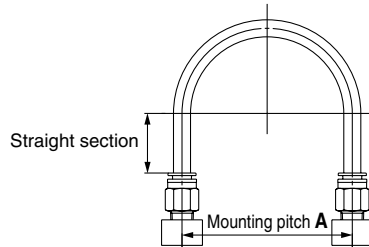
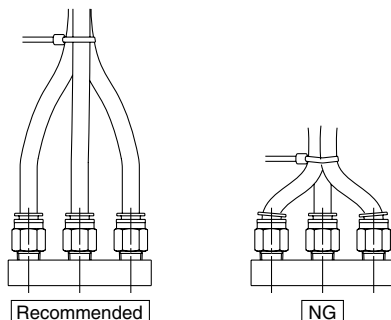

Fig. 1 Recommended piping
Fig. 2 When using a unifying band to bind together the pipes
1. When installing piping in the one-touch fitting, please make sure there is sufficient slack to the tube length as per the recommended piping conditions shown in Figure 1. Also, when binding pipes together with a unifying band, etc., make sure piping is carried out without receiving external force (See Fig. 2).